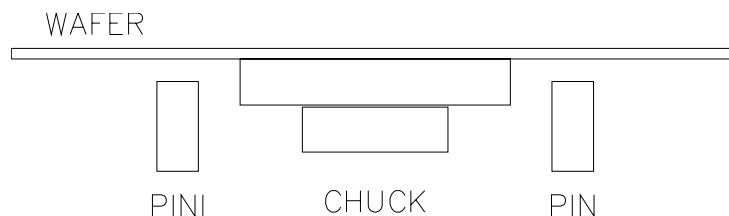

Figure 7-2: Pins and Chuck Below the Surface of the Wafer
3. The correct offset for pins is about 1 mm (0.40 in) below the underside of the wafer, as shown in Figure 7-2 on page 7-18.